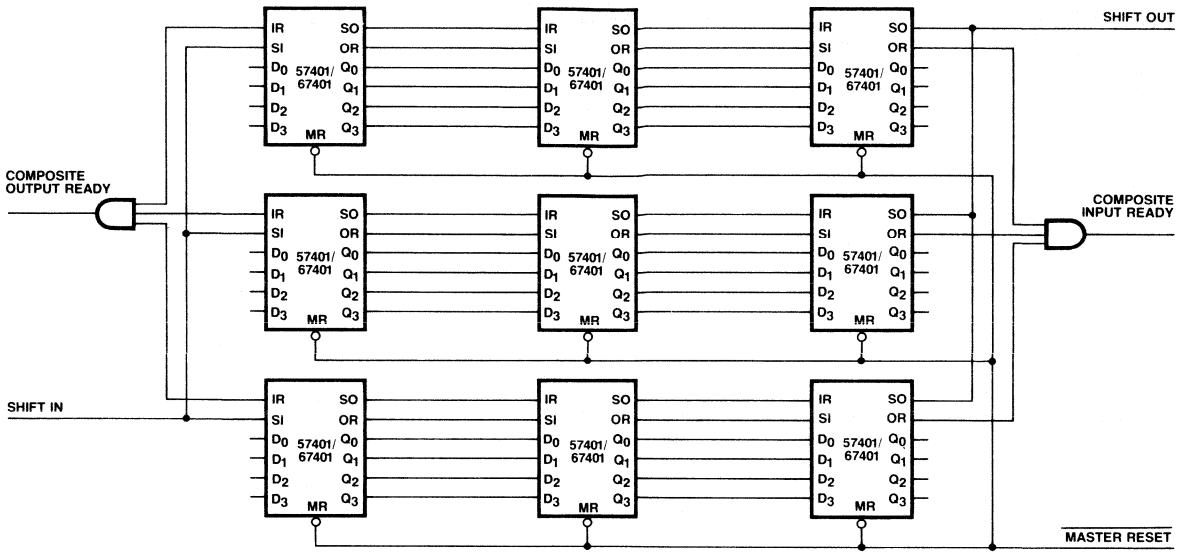

Figure 9. 192 x 12 FIFO—Unlatched Control Lines
Expansion of the FIFO to a longer word length is accomplished as shown in Figures 9 and 10. Careful attention must be paid to the generation of composite Input Ready and Output Ready signals. Because of device-to-device variation the Shift In (SI) to Input Ready (IR) delays will be different on the input FIFOs. If a simple scheme such as shown in Figure 9 is used, then this variation must be allowed for, since composite Input Ready will go LOW as soon as the fastest IR goes LOW, but Shift In cannot go LOW until all three IRs for the input FIFOs are LOW. The user must provide sufficient delay to insure this.
Figure 9 shows one way to eliminate any potential timing problems. The gates and flip-flops are used to generate a Shift In or Shift Out pulse independent of the Shift In or Shift Out signal. The gating insures that Shift In does not go HIGH until all IRs are HIGH and does not go LOW until they are all LOW. The output gating operates in the same way. The only restriction on Shift In and Shift Out are that they must be long enough to clock the flip-flop and that they must occur after the composite Input Ready or Output Ready signal.